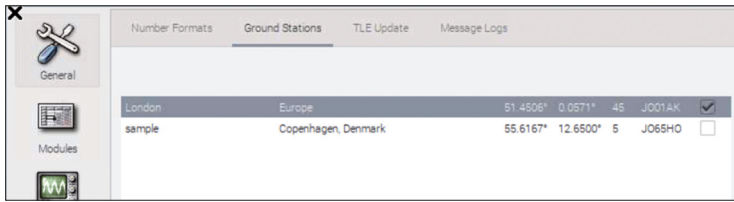

Figure 17.12: Ground Stations.
**Ground Stations** — List of Ground stations created (Figure 17.12)